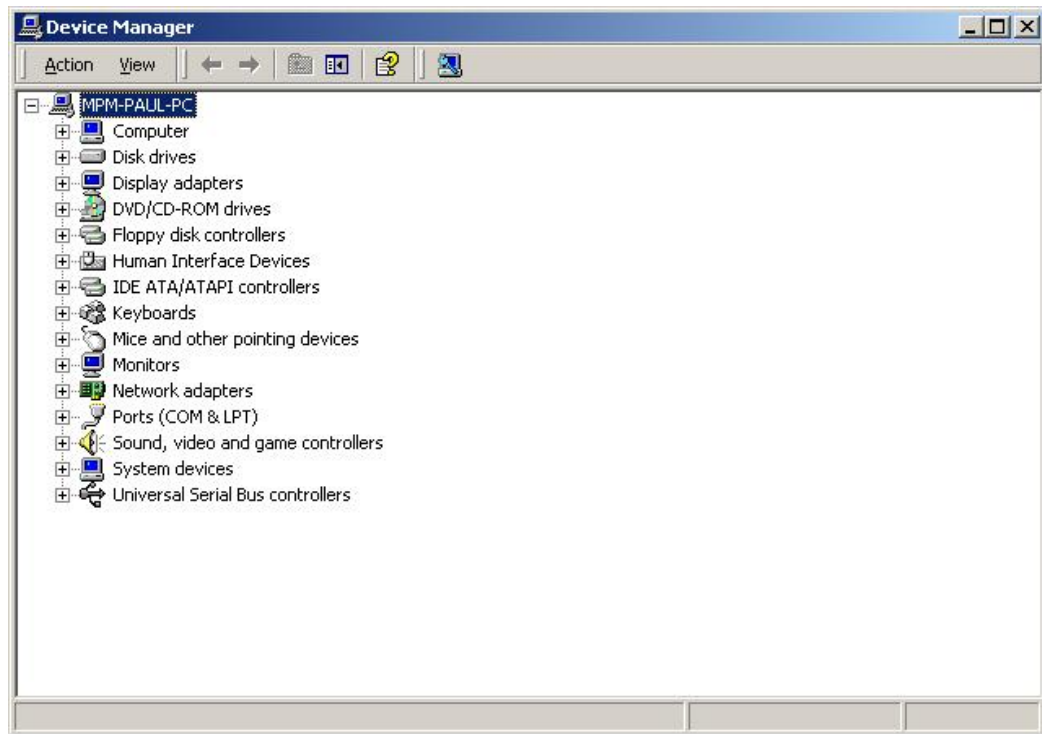

Figure 7-28: Device Manager List
Step 15: A list of system hardware devices appears (Figure 7-28).